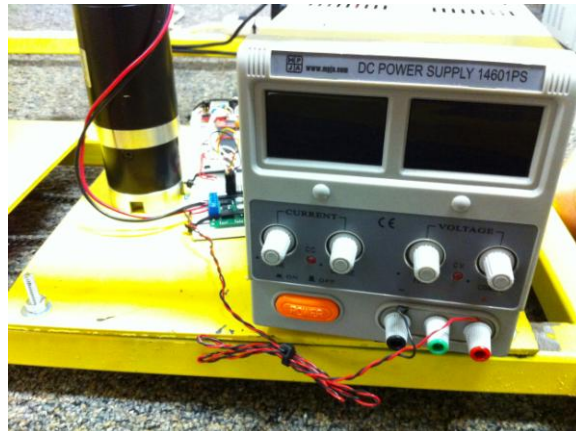

Figure 14 – Power supply for motor / motor controller
- d. Unplug and remove the motor's power supply (shown in Figure 14).